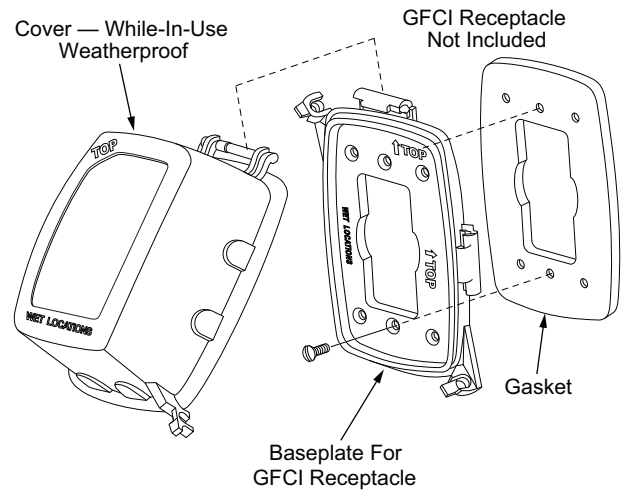

Fig. 35 — Weatherproof Cover Installation
4. Mount the weatherproof cover to the backing plate as shown in Fig. 35.